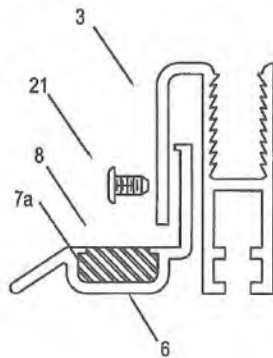

Figure 3
3. Hold bottom rail (3) in place against vinyl channel and drive into place on glass using the block of wood and hammer described above. Start three 6/32 x 3/16" screws (21) into bottom rail. Insert splash vinyl (5) and drip trough (6) into bottom rail (see Figure 3) and secure by tightening the three 6/32 x 3/16" screws (21). Keep end of drip trough 3/8" in from latch side of door. Insert drip plug (7) into end of drip channel opposite the hinge rail side.
Note: Drip trough should be installed so it is flush with notch in bottom rail (See Figure 3) and slopes down at the hinge rail side so water will drain back into shower when door is open.